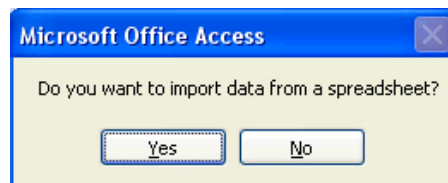

Figure 35 - Import from Spreadsheet Option Dialog
- Click “**No**” from the import from spreadsheet option dialog (see Figure 35 - Import from Spreadsheet Option Dialog). You will be prompted to enter a location – method, run number, and run date for the run data to be inputted.